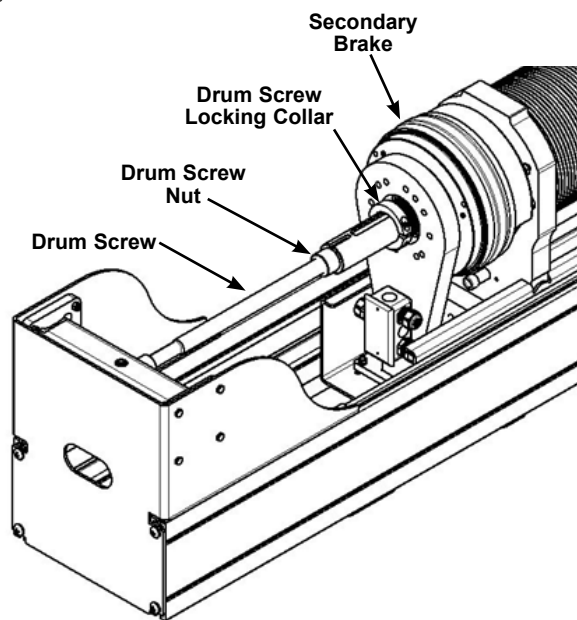

Figure 3: Drum Screw
1. Examine the Drum Screw as seen in Figure 3.